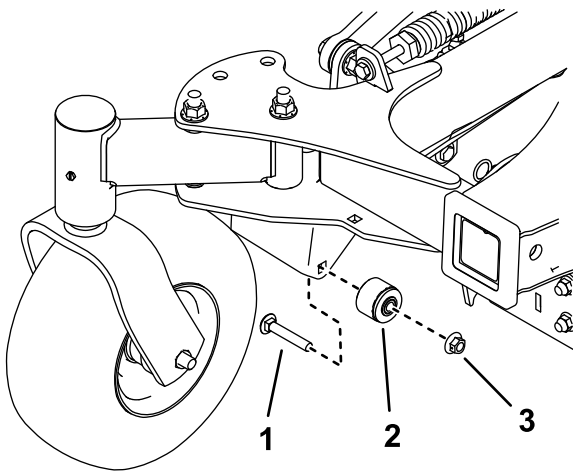

Figure 26
9. Remove both bushing assemblies (Figure 26).